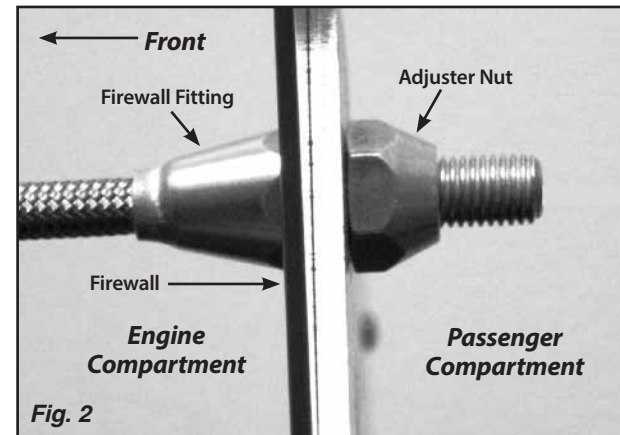

Fig. 2
**Step 4:** On the pedal end of the cable housing, remove the adjuster nut from the firewall fitting. Insert the firewall fitting through the firewall from the engine side, and reinstall the adjuster nut. **Fig. 2**